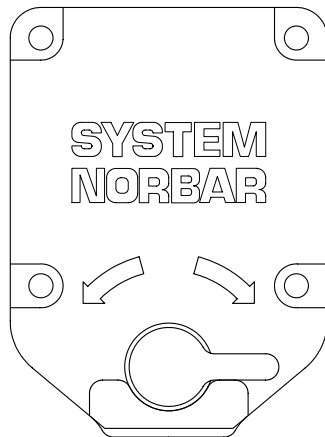
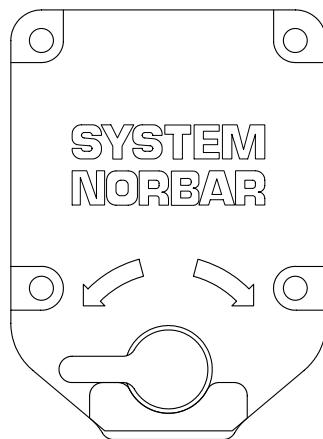

Figure 5
Figure 6
1. Ensure the Clockwise/Counter-clockwise Selector (Figure 5 & Figure 6) is correctly set.